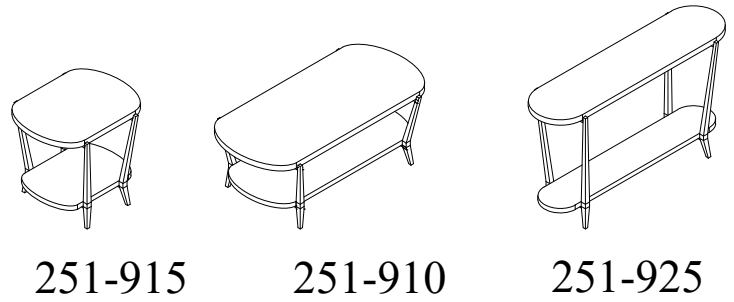

Figure 1
2. Attach two metal legs to the top using Countersink Bolt (A) and the Allen Wrench (B).As Shown in Figure 1(Do not over tighten bolts during assembly)